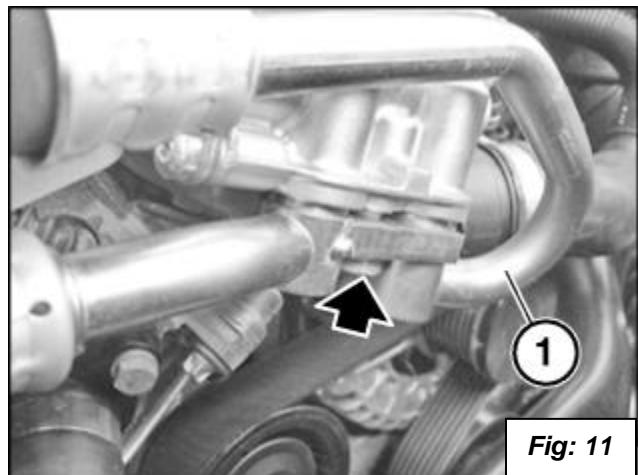

Fig: 11
16. Remove the oil lines (1) from the oil filter control housing by removing the bolt marked with an arrow. Put rags under oil lines to catch oil (keep the oil off of the belts!). **See figure 11. Tip:** Use a flex head ratchet and you don't have to remove the fan cowl.